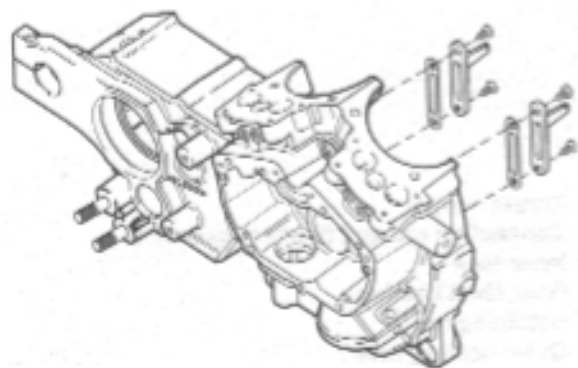

Figure 3-135. Piston Oil Jet Assemblies
1. See Figure 3-135. Remove two TORX screws from each piston jet assembly to free piston jets from right crank-